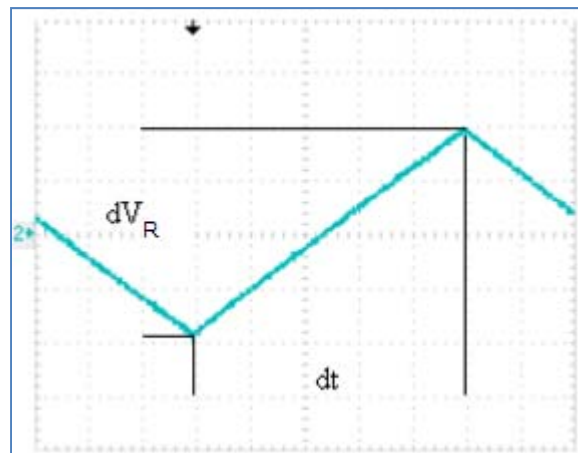

Figure 8: Schematic of waveform to find 'Rise/Run' of a resistor
- (1) Adjust the scope so that only one period of v_R is shown and save it for your report.
- (2) The waveform of v_R should look like a triangle wave. Adjust the vertical sensitivity of the oscilloscope so that the triangle wave is as large as possible but still completely on the screen. The definitions of dv_R (the "rise") and dt (the "run") for the voltage across R_1 are shown in Figure 8. Find dv_R and dt .
- (3) Measure the waveform for the voltage v_L across L_1 and save it for your report.
- (4) Based on the measurement results, calculate $\frac{L_1}{R_1} \cdot \frac{dv_R}{dt}$, compare it with the peak voltage V_{Lp} of the waveform for the voltage v_L across L_1 and find the percent error.